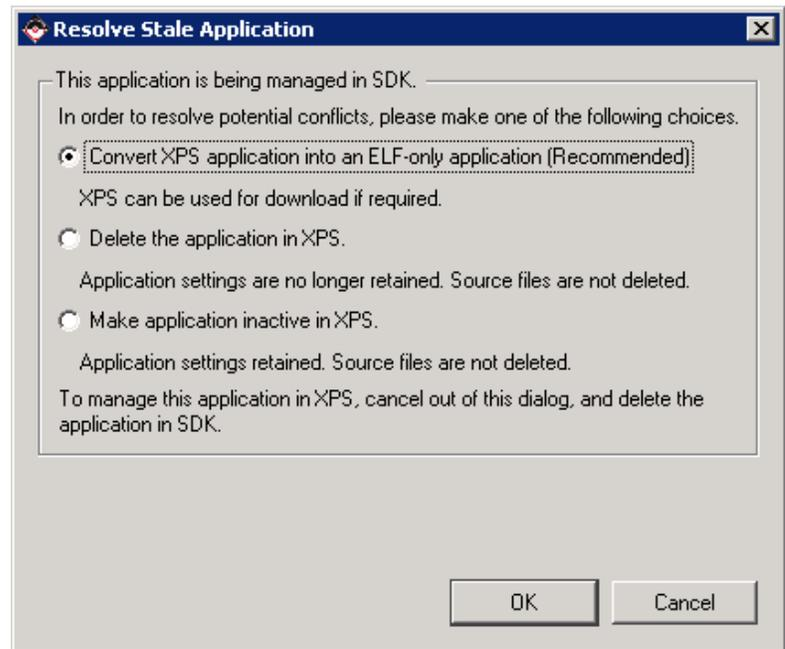

Figure 6-7: XPS ELF File Management Option
3. Right click on the TestApp Peripheral project in XPS. You'll get the dialog shown in Figure 6-7.